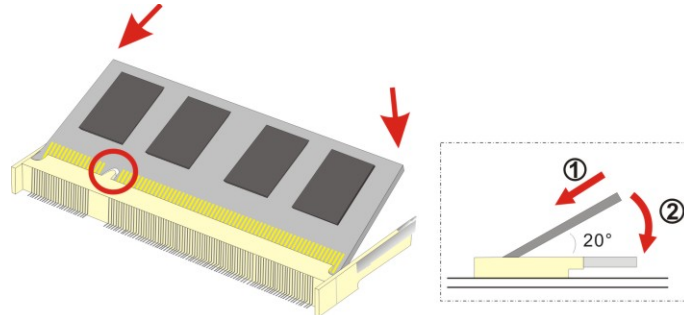

Figure 4-1: SO-DIMM Installation
To install a SO-DIMM, please follow the steps below and refer to **Figure 4-1**.
- Step 3:** **Insert the SO-DIMM.** Push the memory in at a 20° angle. (See **Figure 4-1**)
- Step 4:** **Seat the SO-DIMM.** Gently push downwards and the arms clip into place. (See **Figure 4-1**)